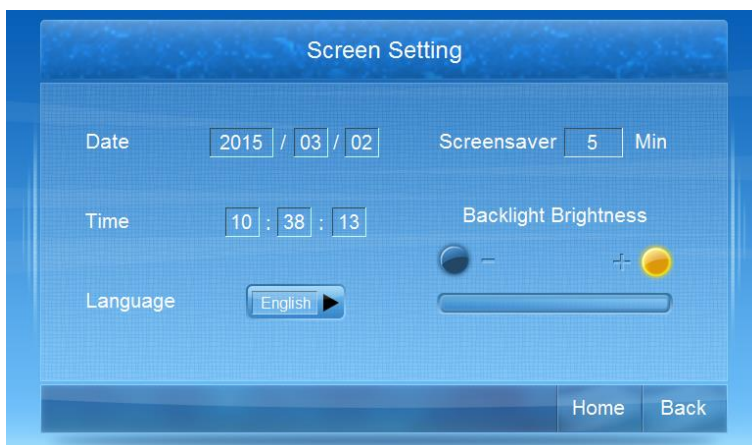

Figure4-12 “Screen setting” page
Step 4 Click “screen setting” icon to enter **Screen Setting** page, as shown in Figure4-12.